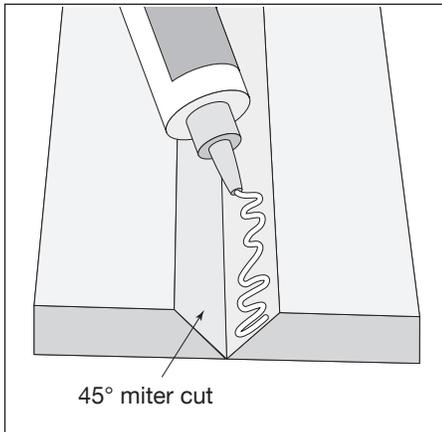

Fig. 11
- Cut trim pieces with opposing 45° angle cuts to form a 90° corner when joined (**Fig. 11**)
- Apply premium polyurethane-based glue and clamp the miter joint (**Fig. 11 & 12**)